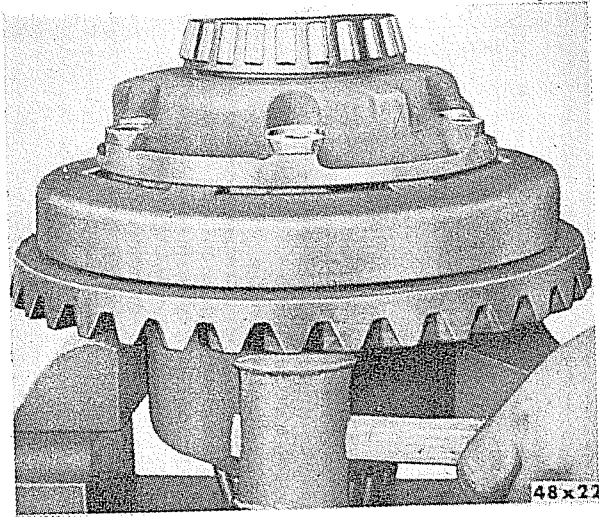
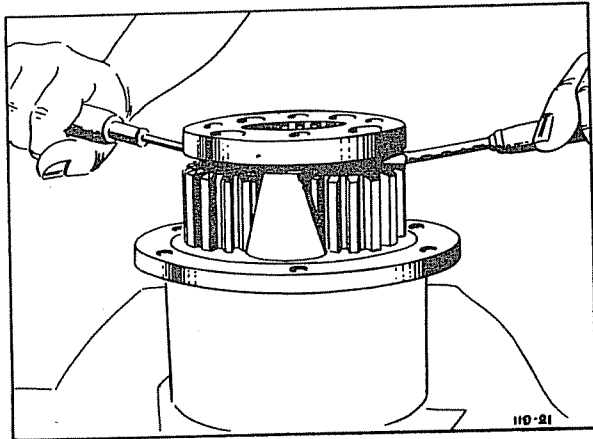

Fig. 44—Removing Ring Gear.
Fig. 45—Removing High Speed Clutch Plate.
- (16) Tap alternately on opposite sides of ring with head of raw hide mallet until the gear is free of flange on support case (Figure 44). When reassembling use two bolts to ensure proper line up of bolt holes.
- (17) Lift off left hand of support case and oil drum. Lift off thrust washer and ring gear.
- (18) Pry off high speed clutch plate, and take out idler pinions and pins (Figure 45).